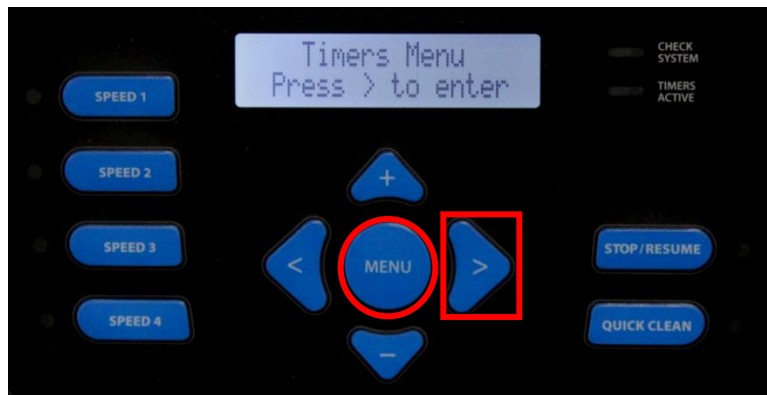

Fig 51
1. Press the  button until you see the Timers Menu (fig 51). Press the  button to continue.